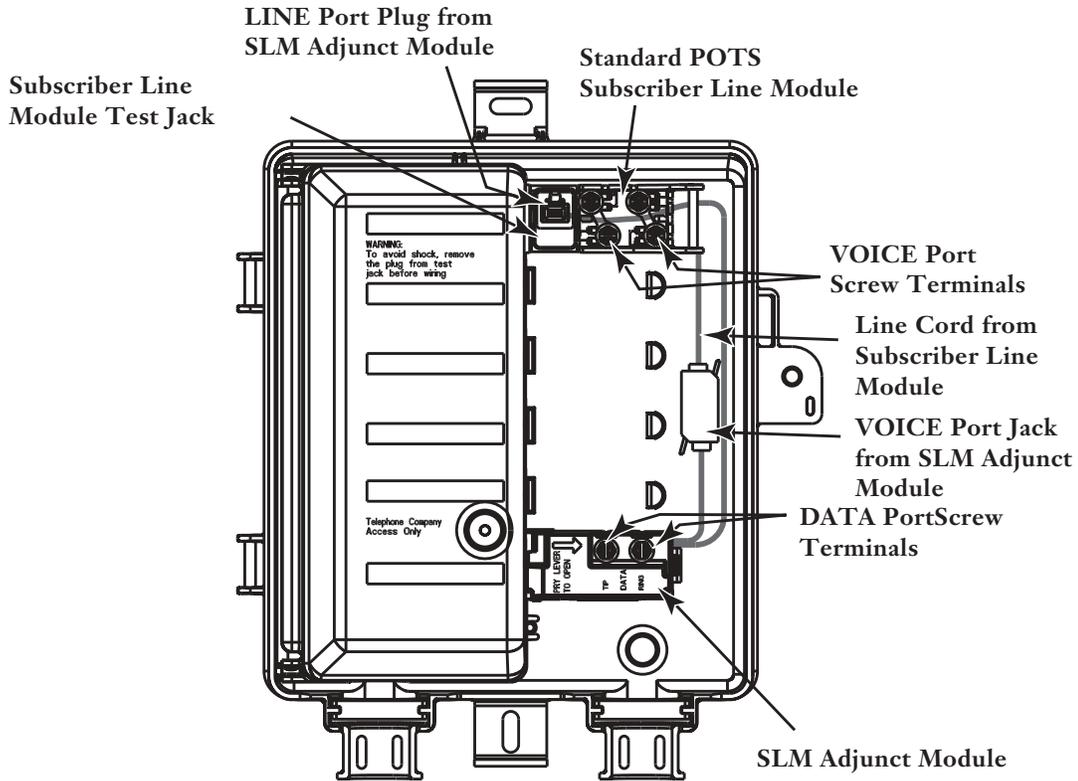

Figure 5
- Unplug the line cord from the Standard POTS Subscriber Line Module (Figure 5).